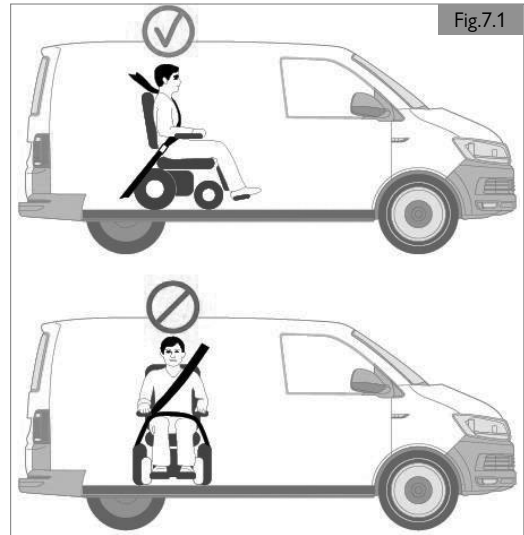

Fig.7.1
3. The wheelchair should be secured in a forward facing direction. This wheelchair is approved for use in cars and meets the requirements for forward facing transport and head on collisions. The wheelchair has not been tested for other positions in a vehicle (Fig. 7.1).